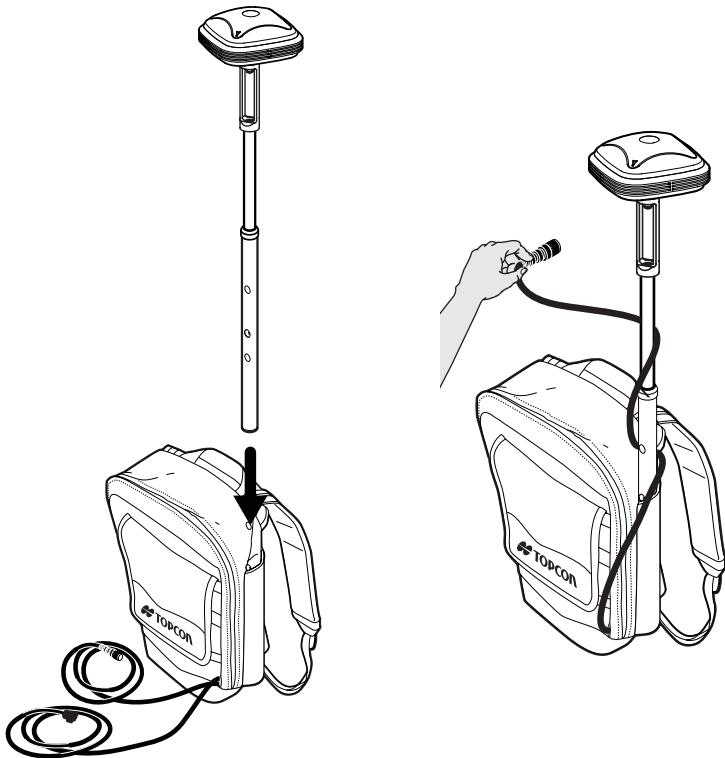

Figure 2-7. Insert Antenna and Connect Antenna Cable
4. With the antenna attached to the pole, insert the antenna pole into the compartment on the same side the cables emerge from (Figure 2-7).
5. Connect the antenna cable to the antenna, wrapping it around the pole (Figure 2-7).